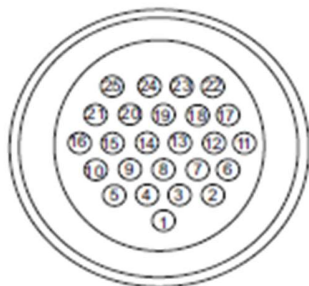

Figure 3-13: I/O 25 Way
The I/O 25 way connector (Bulgin Connector) is available for Videojet 1610 Excel printer (item 7). See Figure 3-13.